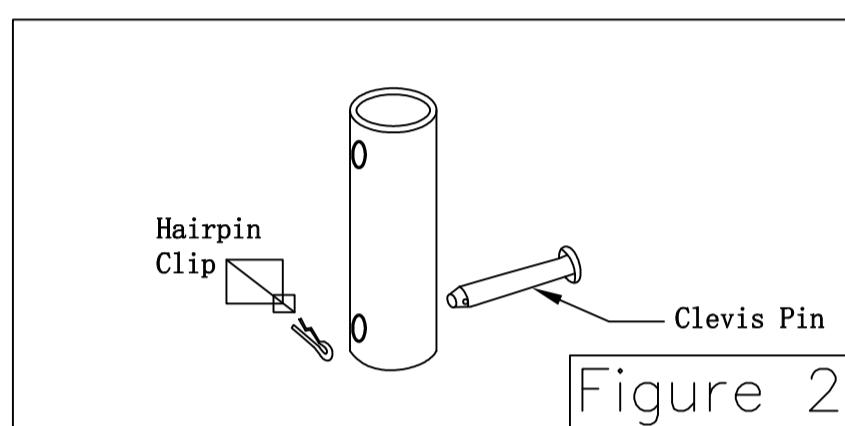

Figure 2
□ Remove the hairpin clip and clevis pin from the bottom of the downrod. Retain the pin and clip for reinstallation in Step 4. (Figure 2)